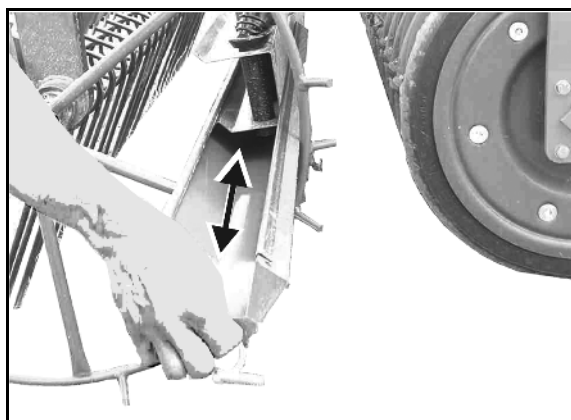

Fig. 36
2. Pull the left and right hand calibration tray off the outlet rail and place them below the outlet rail (Fig. 36).